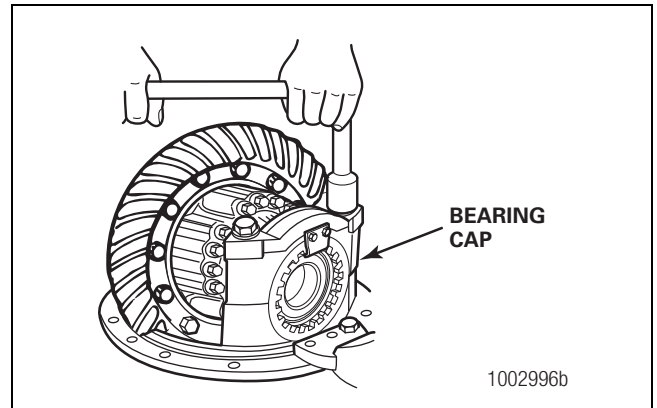

Figure 3.13
6. Remove the capscrews and washers that hold the two bearing caps on the carrier. Each cap is held in position by two capscrews and washers. Figure 3.13.